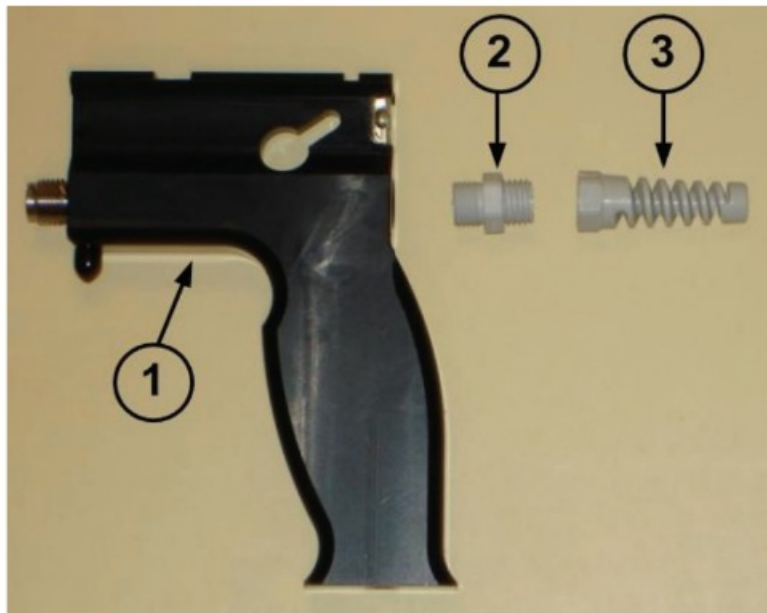

Figure 2-14 Pistol grip components
6. Insert the end of the fibre optic extension cable into the pistol grip and secure with the grey nut and strain relief as shown in Figure 2-14 and 2-15 below from the FieldSpec3 Manual. Do not over tighten the strain relief.
The pistol grip is standard with the FieldSpec spectroradiometer, as shown in Figure 2-14. The pistol grip has a 25 degree field-of-view, full conical angle.